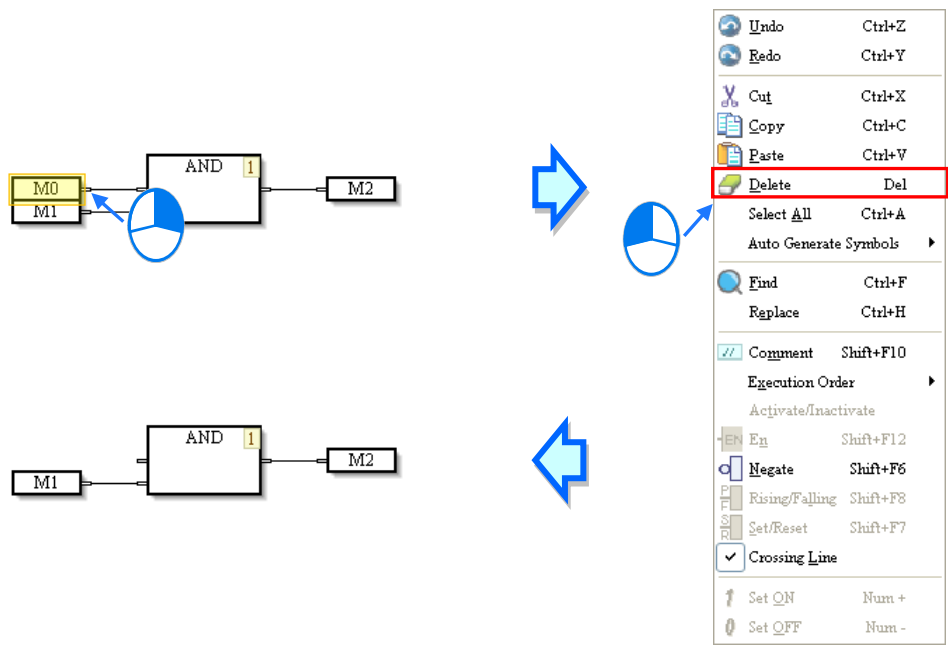

Figure 12-34 Deleting an object
(2) The users have to click an object, right-click the object, and click **Delete** on the context menu which appears, as shown in figure 12-34.